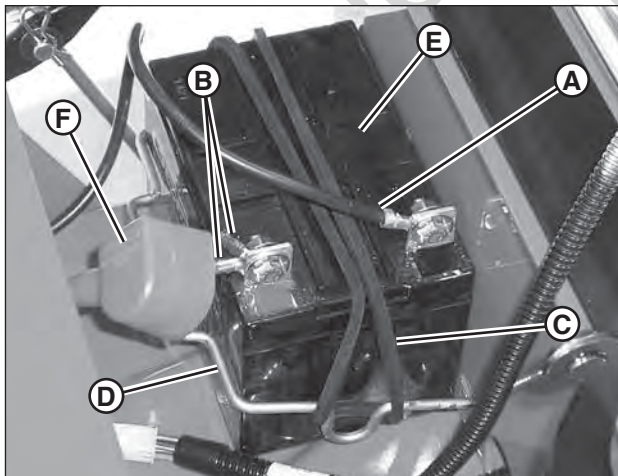

Figure 33: Battery (valve regulated type)
2. Disconnect the BLACK (Negative) cable (A, Figure 33) from the negative battery terminal. Retain the mounting hardware.
2. Install the battery (E, Figure 33) into the battery compartment, orientating it in the wireform (D) as shown.
3. Secure the battery with the battery strap (C), hooking the loose end onto the wireform.
4. Connect the RED positive (+) cables (B) to the positive terminal (+) on the battery with the removed hardware.
5. Connect the black negative (-) cable (A) to the negative terminal (-) on the battery with the removed hardware.